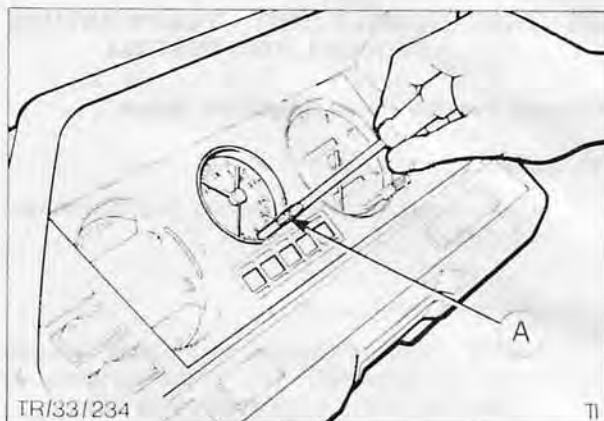

Fig. 72 Removing clock knob
3. Unscrew clock adjuster knob securing screw and remove knob, Fig. 72.